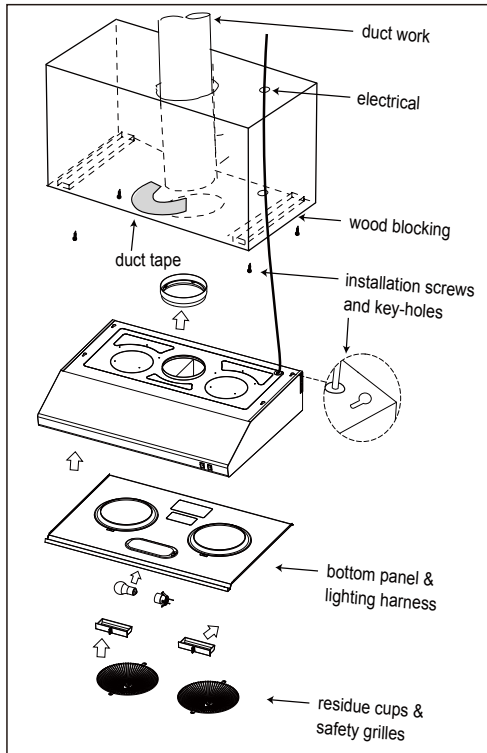

Fig 1
**Hood is designed for installation under a kitchen cabinet. See Fig. 1 for details.**
4. Remove bottom panel from hood using a Philips head screwdriver to remove each of the (3) screws. Also remove lighting harness by pressing in on the clip to release the lights from the internal wiring.
5. Install (4) wood screws to cabinet bottom by following the installation screw hole dimensions on Page 7. These screws will be used to secure the hood to the cabinet.
6. Lift hood onto screws located on cabinet bottom and lock into place. Make sure all (4) key-holes cover the screws. Tighten each screw to secure hood to cabinet.